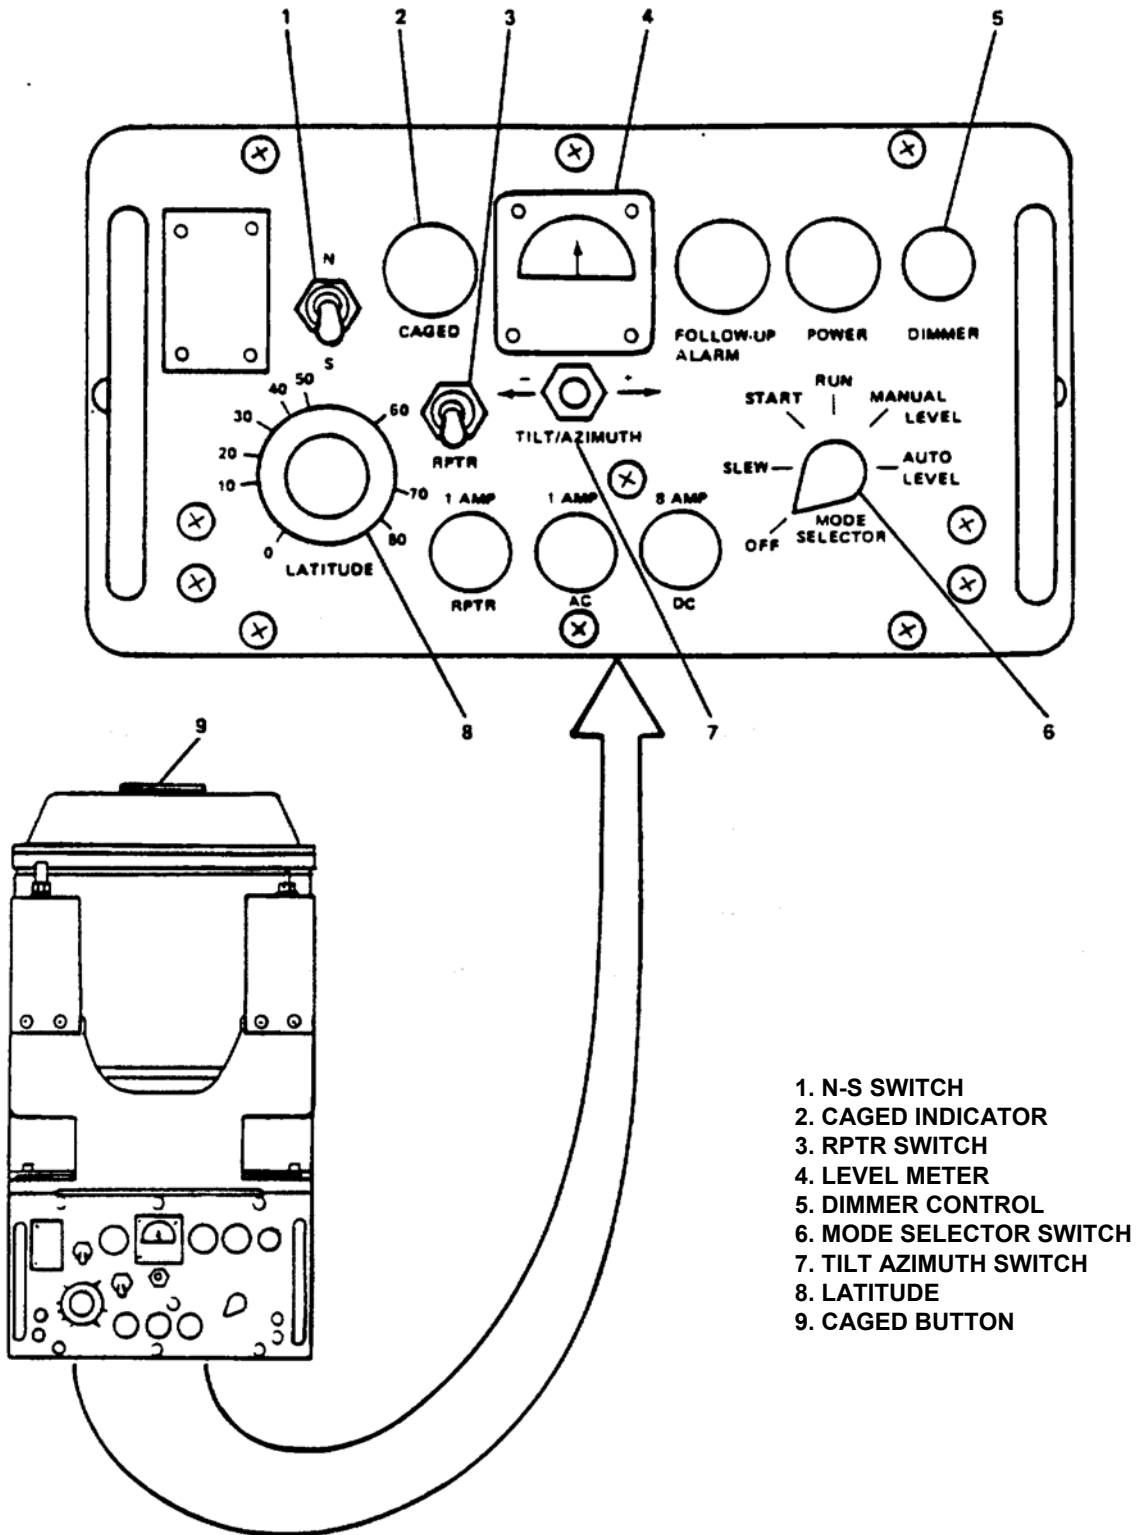

Figure 2-218. Gyrocompass Mk 27 Mod 1 Electronic Control Panel.
(1) Gyrocompass Mk 27 Mod 1 electronic control panel (Figure 2-218).
(4) Gyrocompass Mk 27 Mod 1 electronic control panel (Figure 2-218).
(1) Gyrocompass Mk 27 Mod 1 electronic control panel (Figure 2-218). Set RPTR switch (3) to OFF position.
(4) Gyrocompass Mk 27 Mod 1 electronic control panel (Figure 2-218). Set RPTR switch (3) to ON position.